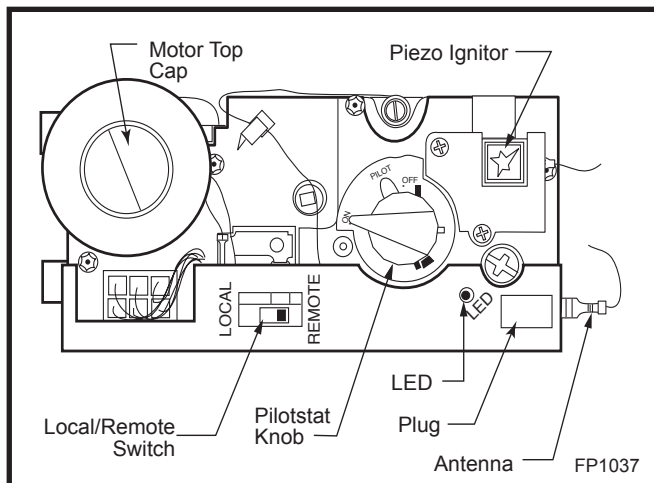

Fig. 59 Comfort control valve.
1. If the manual switch is in remote position, switch it to LOCAL. (Fig. 59)
2. Remove and replace plug on lower right hand side of the valve; Red for LP and Blue for NG. (Page 35, Fig. 59)